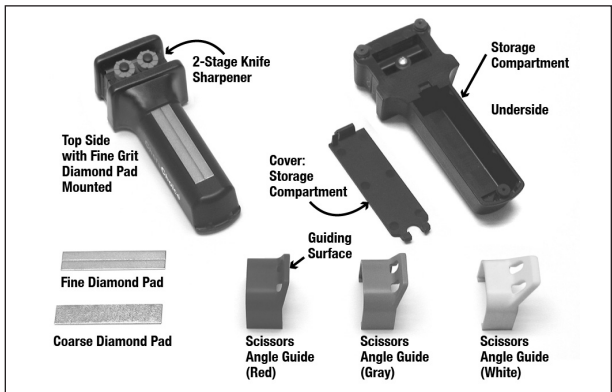

Figure 1: Model 480KS Knife and Scissors Sharpener and its components.
The Model 480KS, See Figure 1, consists of the 2-Stage Knife Sharpener, two (2) diamond coated abrasive pads, and three (3) Scissors Angle Guides.
The sharpener is shown at upper left – Figure 1 with the Fine grit diamond pad in place on top of the sharpener. That abrasive pad, held in place by a magnetic strip (not shown) recessed under the pad, can be removed and stored in the compartment under the sharpener.